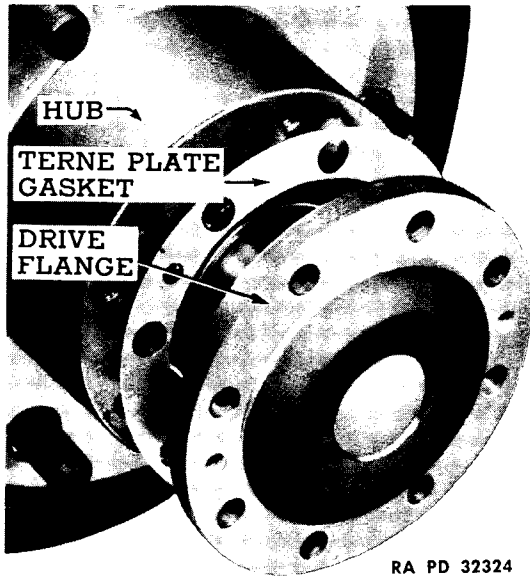

Figure 28—Hub Drive Flange and Gasket
(13) INSTALL DRIVE FLANGE (fig. 28).